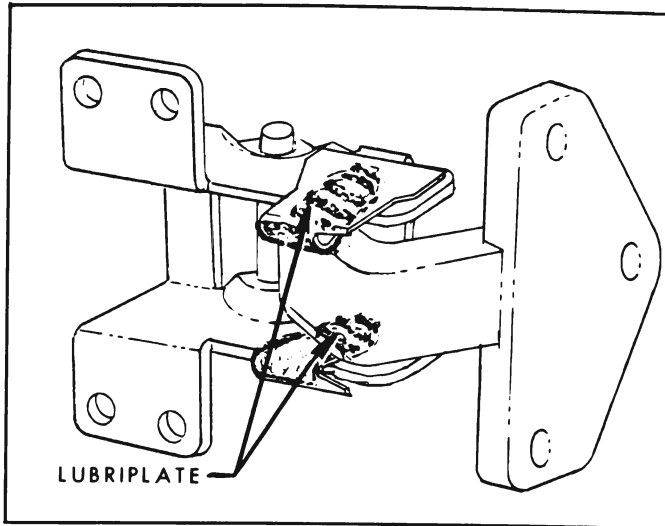

Figure 1-14—Lubrication of Front Door Hinge and Hold-Open Clips
7. Front Door Hinge Hold-Open Clips. Wipe off dirt and apply a light coat of Lubriplate or its equivalent to hold-open clips as shown in Figure 1-14. The hinge pins should be lubricated with engine oil.